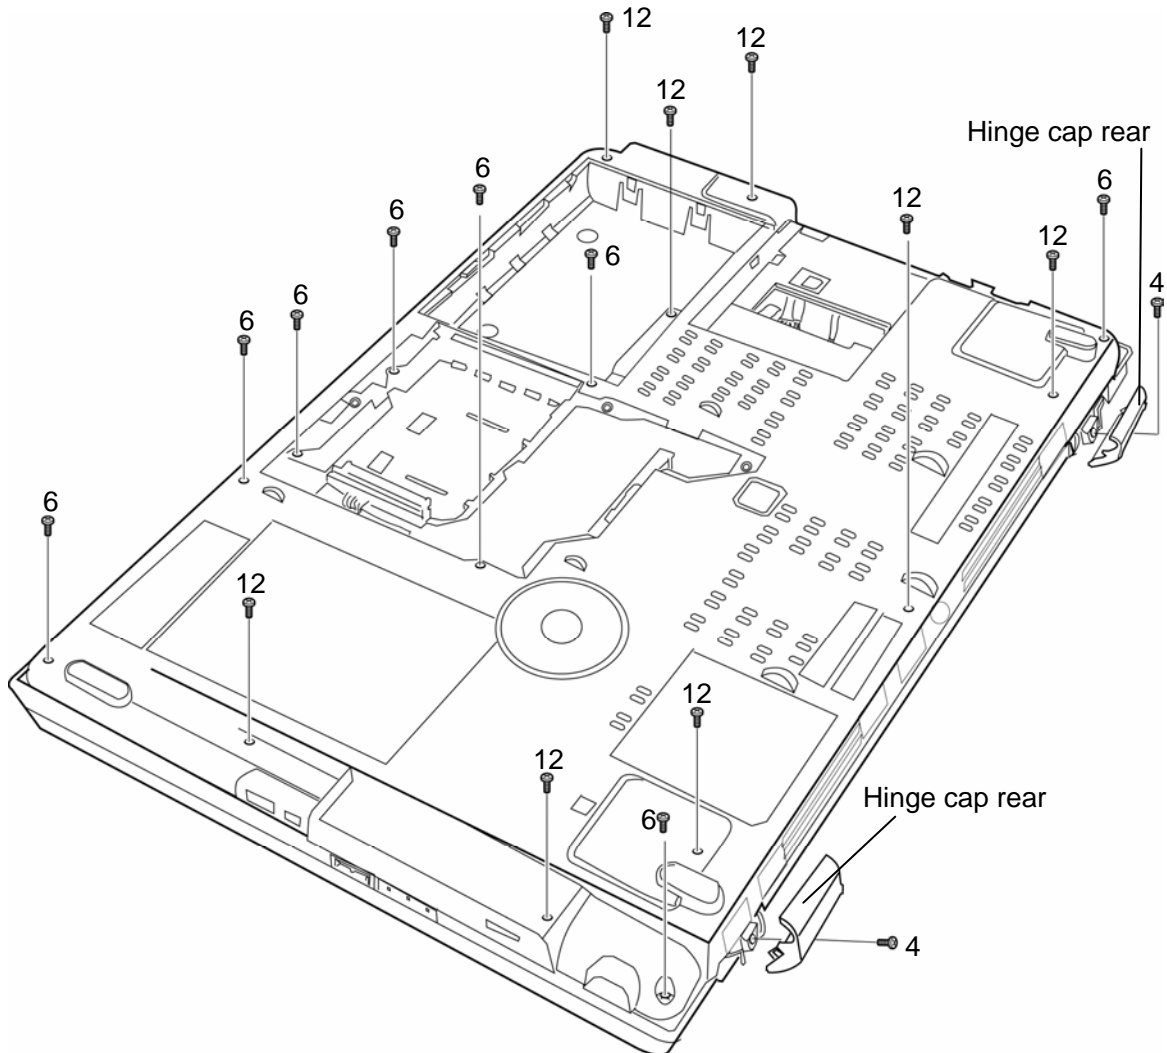

Figure 4-24 Removing the cover assembly/base assembly (3)
- M2.5×4B FLAT HEAD screw ×2 (Described as “4” in the figure 4-24)
- M2.5×6B FLAT HEAD screw ×8 (Described as “6” in the figure 4-24)
- M2.5×12B FLAT HEAD screw ×8 (Described as “12” in the figure 4-24)